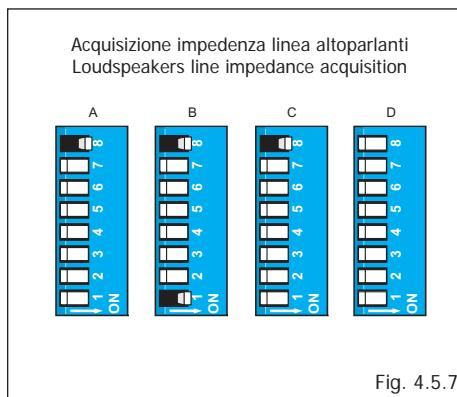

Fig. 4.5.7
2. Operate the dip switch by moving lever 8 to the **ON** position and then lever 1 as shown in Figure 4.5.7.